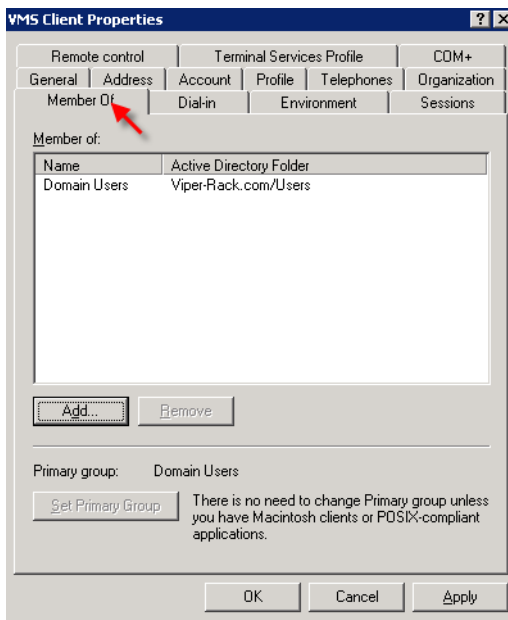

Figure 2-41 Client Properties
6. Move the new user to the VMS users group. Do this by right-clicking on the user that was just created and opening the **Client Properties** page shown below in figure 2-41. Open the **Member Of** tab.